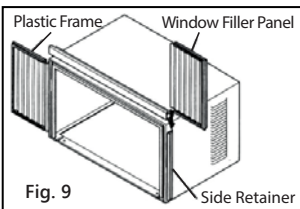

Fig. 9
2. Slide I section of window filler panel into side retainer on the side of the cabinet (see Fig. 9 & Fig. 10). Do both sides.